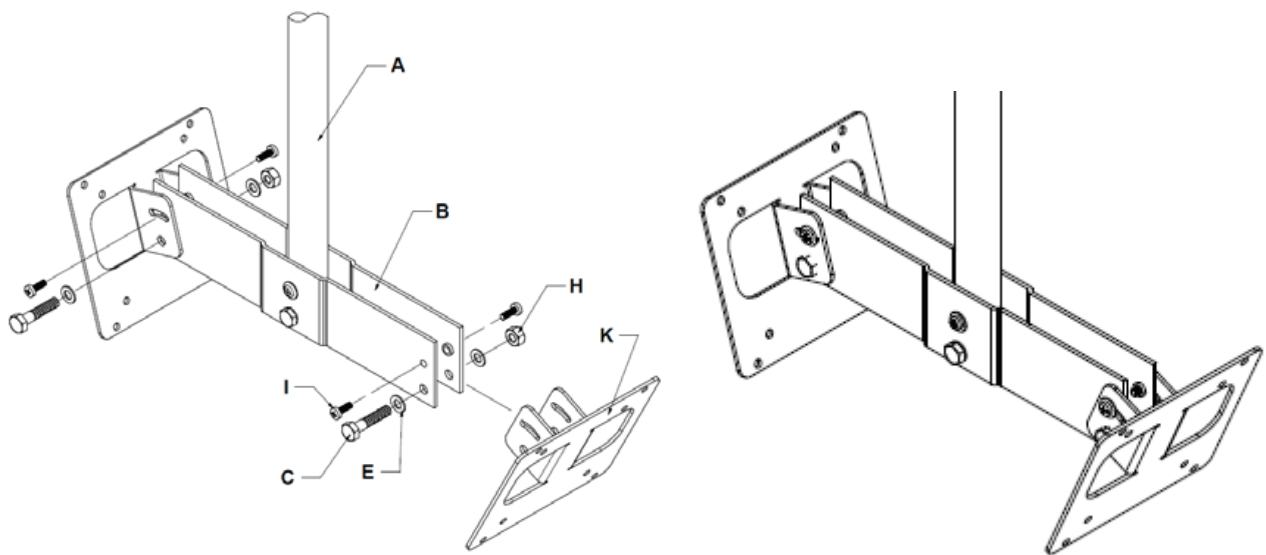

Figure2
3) Install the VESA Plates to the ends of the Crossbars. Refer to Figure 2.